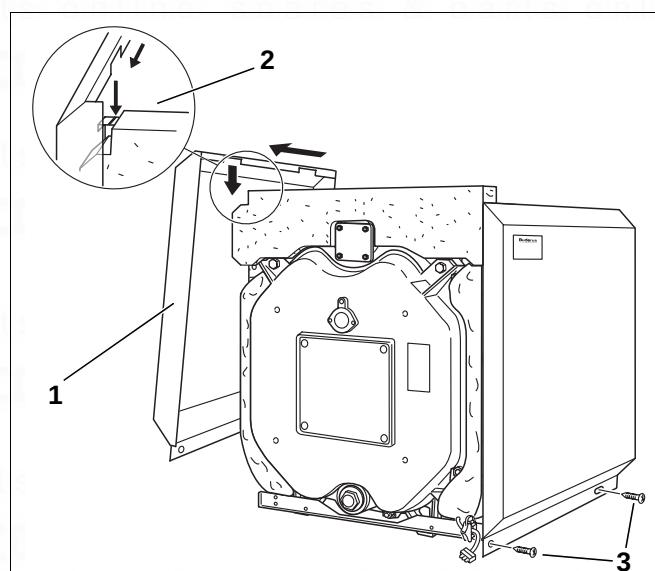

Fig. 35 Installation – side panels
- ▶ Attach side panel (Fig. 35, [1]) with the cut-outs into the slits of the top connection plates (Fig. 35, [2]) and push forwards as far as it will go (see arrows in Fig. 35).
- ▶ Screw the side panels at the bottom to the bottom connection plates using two self-tapping screws in each case (Fig. 35, [3]).